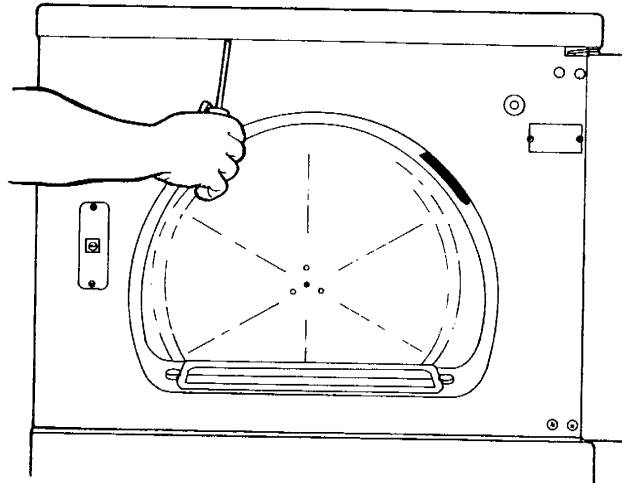

Figure 3 — Raise Cover
1. Remove the screws securing the front to the underside of the cover, Figure 3.